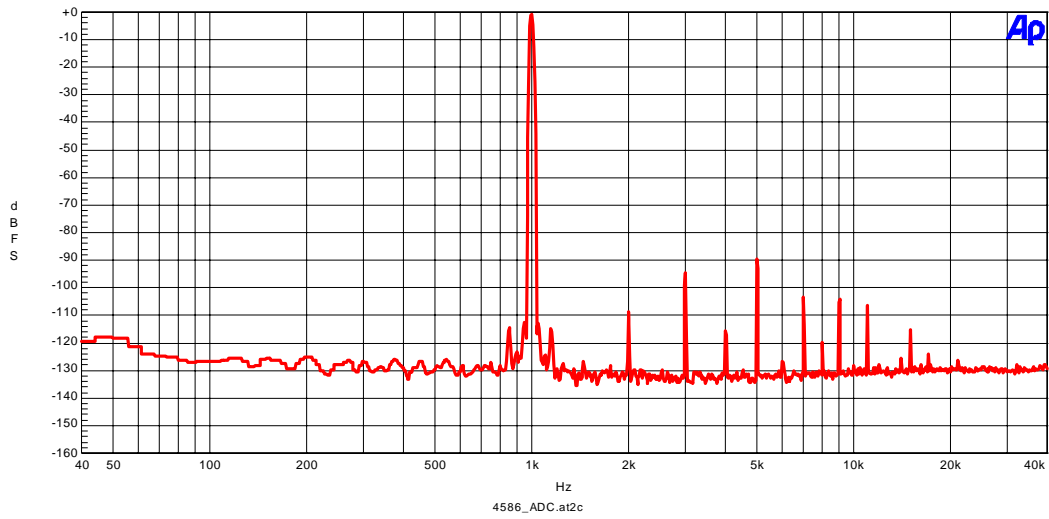

Figure 2-1. FFT (1kHz, -0.5dBFS input)
- Figure 2-1. FFT (1kHz, -0.5dBFS input)